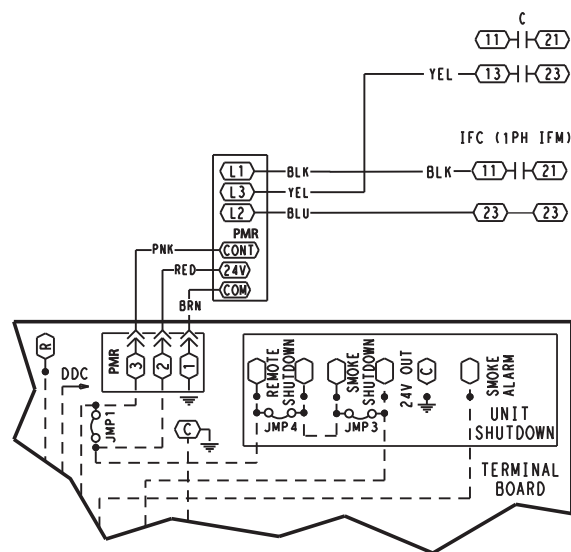

Fig. 8 - Wiring Diagram
On the indoor fan contactor (IFC), connect the black wire to terminal “11” and the blue wire to terminal “23.” On the compressor contactor (C) or (C1), connect the yellow wire to terminal “13.” (See Fig. 8.)